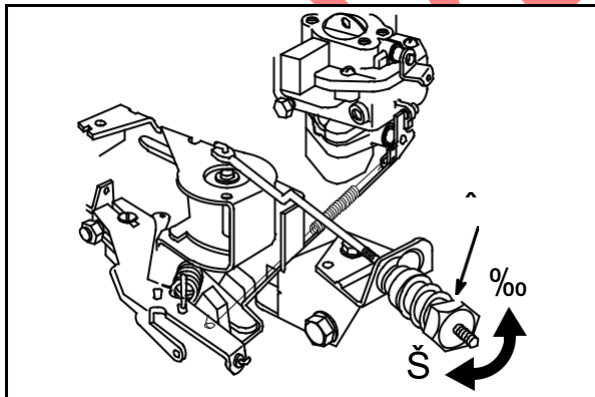

Fig. 41
Engage fixed speed adjustable control nut (8) and adjust to Regulated No-Load RPM for the type of generator listed in Table 1, **Fig. 41**.